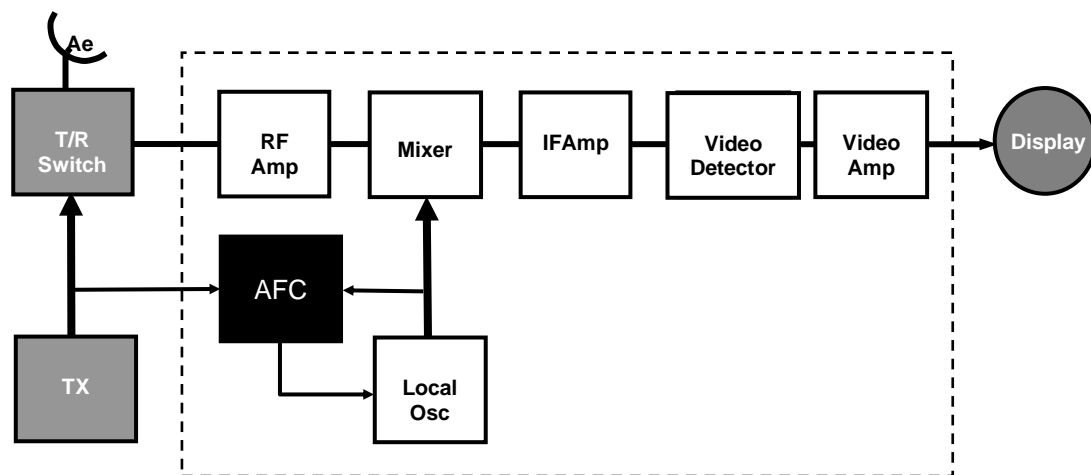

Figure 1 - A Typical Pulsed Radar Superheterodyne Receiver with (AFC)
17. (Refer figure 1) The purpose of the automatic frequency control (AFC) is to maintain a constant IF from the mixer stage, it does this by monitoring the TX frequency and adjusting the LO frequency to the correct output